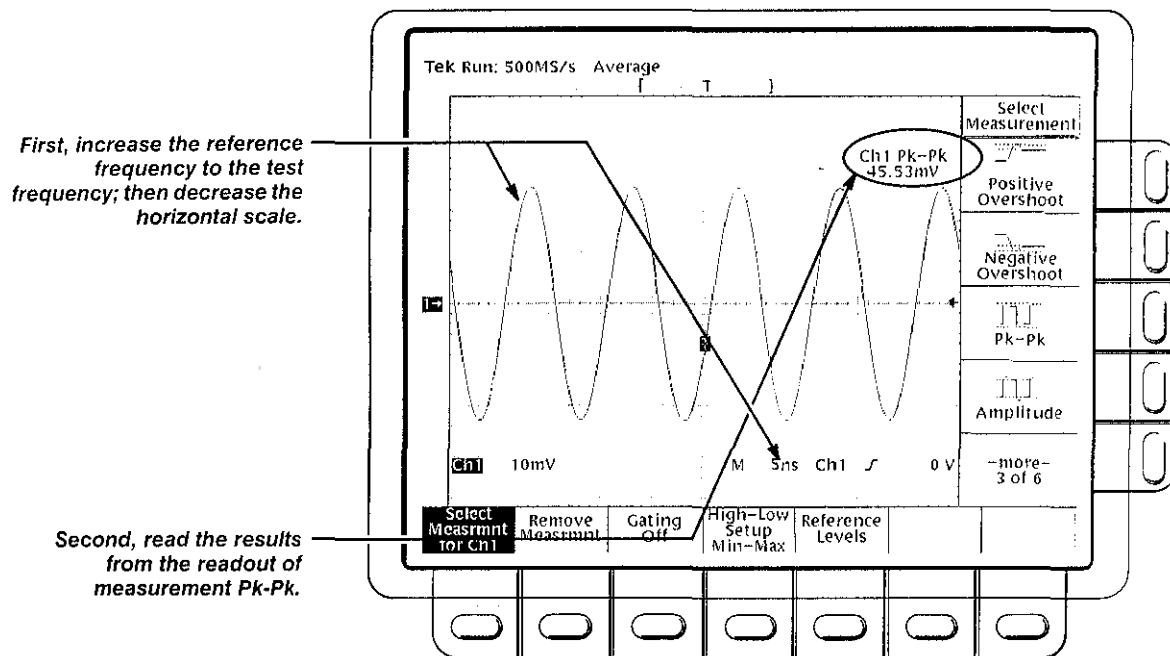

Figure 6-6: Measuring Analog Bandwidth
13. Check that the **Pk-Pk** readout on screen (as shown in Figure 6-6) is ≥ 42.5 mV.